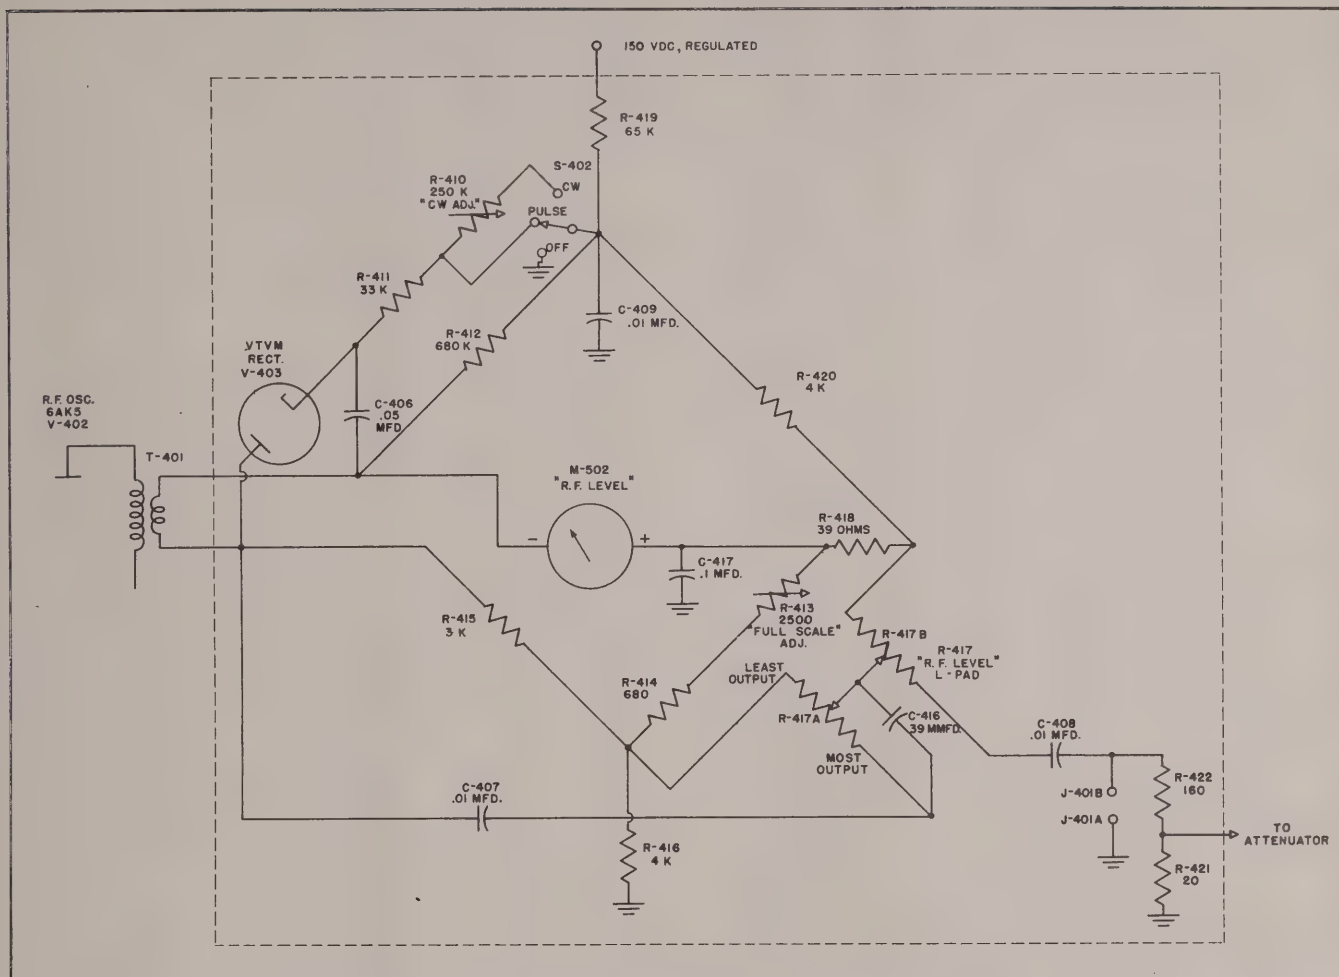
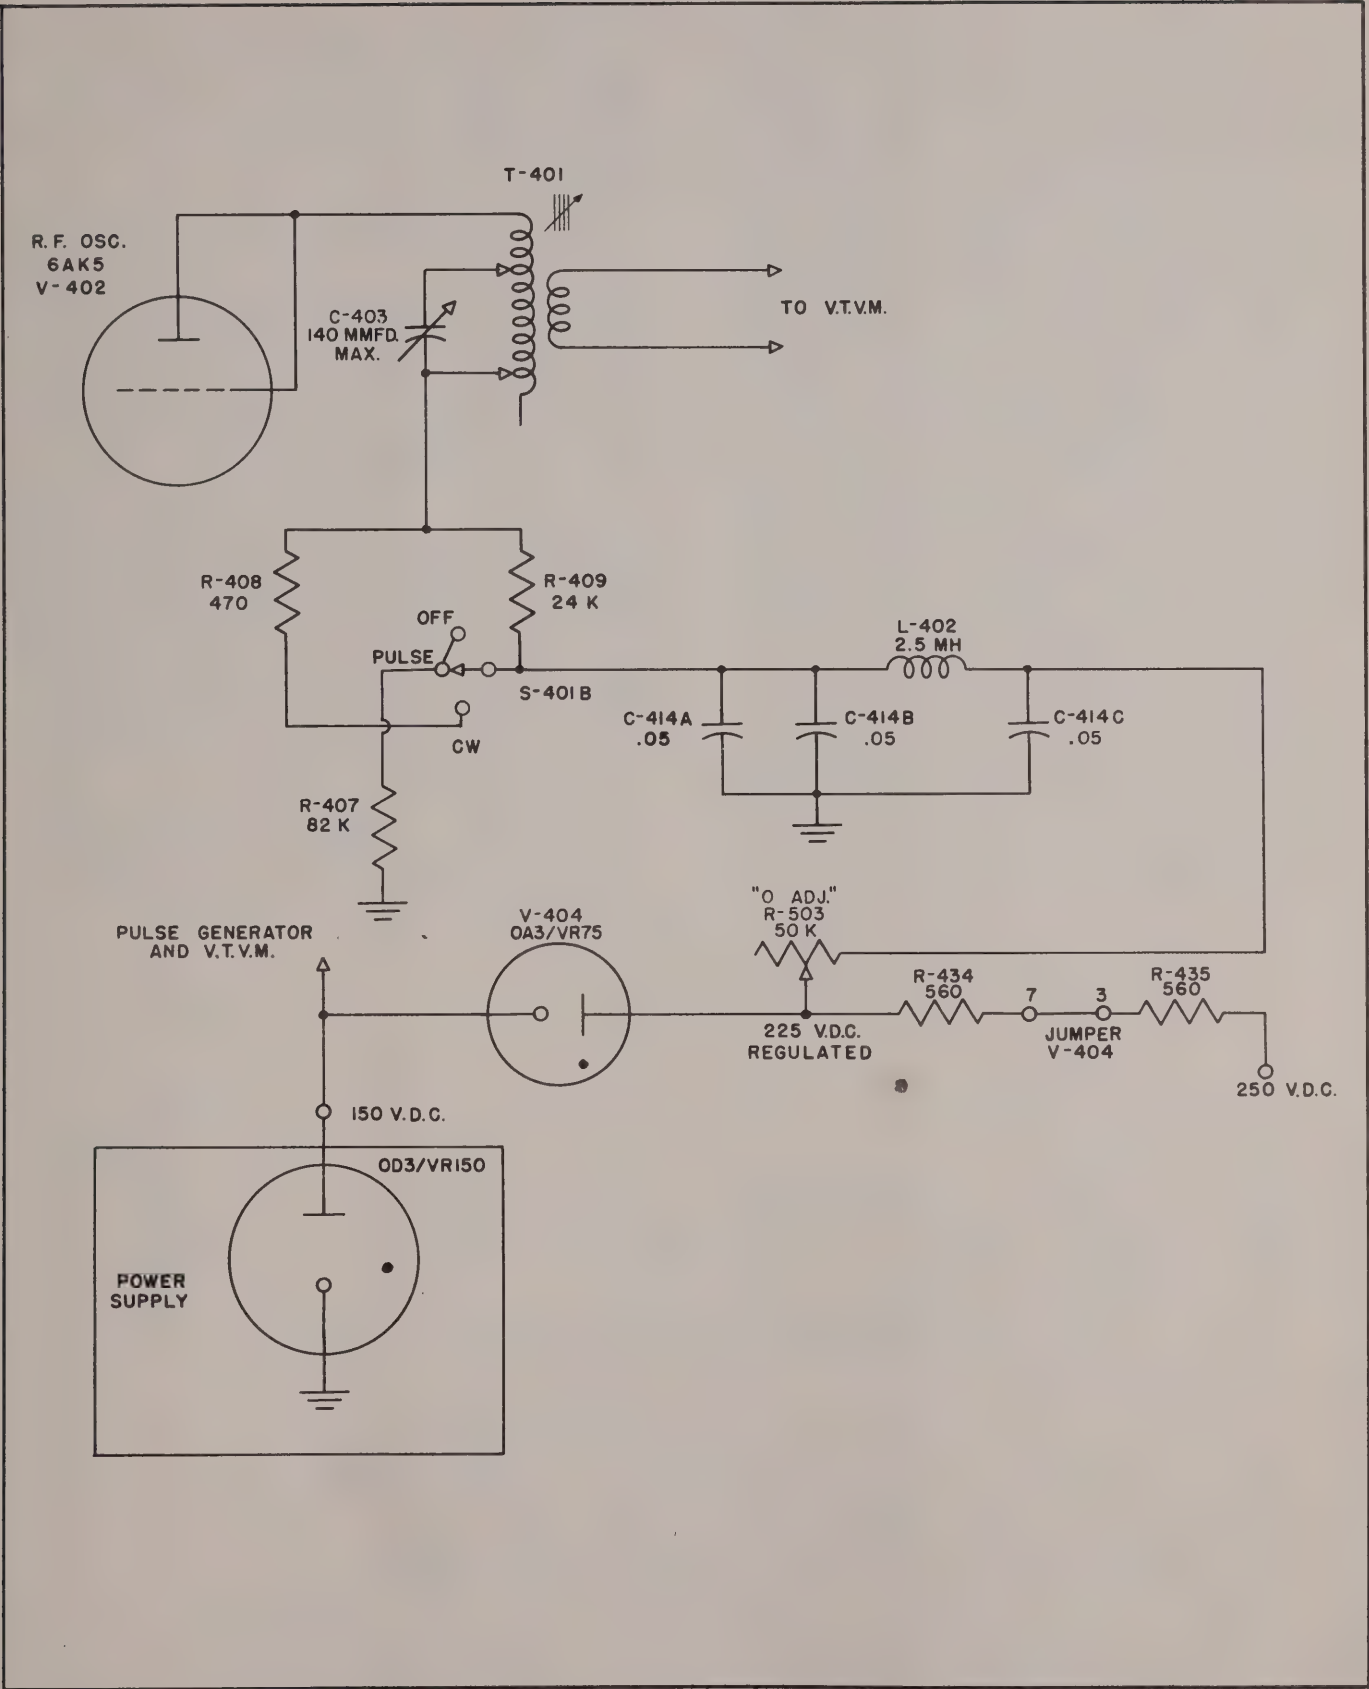

Figure 2-2. Simplified Schematic, Vacuum Tube Voltmeter Circuit
Figure 2-3. Simplified Schematic, Vacuum Tube Voltmeter Zero Adjustment Circuit
(4) R. F. OSCILLATOR, FIELD INTENSITY METER IM-14/UP.—This generator is the same as described in Sec. 2-2c(3) except that capacitor C-405 and transformer T-401 are adjusted to resonate in the frequency range of 110 kc. to 220 kc. per second and capacitor C-404, resistors R-436 and R-406 are changed in value because of the lower operating frequency.
(5) VACUUM TUBE VOLTMETER. (See figure 2-2.)—With no RF voltage applied to the secondary of T-401 and the "L" pad R-417A and R-417B set to minimum, the *RF Level* meter M-502 reads less than zero because of the d. c. voltage drop across resistor R-420. Low tolerance wire wound resistors R-419, R-420, and R-416 are used to maintain this delay voltage at 8.2 VDC in Field Intensity Meter IM-10/UP or 8.8 VDC in Field Intensity Meter IM-14/UP. It is necessary to apply a peak RF voltage equal to the delay voltage to the bridge circuit from T-401 before the meter will read zero. Zero setting of the meter is accomplished by varying resistor R-503, *Zero Adj.* control, which in turn changes the plate voltage on the RF oscillator V-402 (See figure 2-3). As the "L" pad is advanced, the bridge becomes more unbalanced and the meter reading becomes greater. Thus the meter may be calibrated in terms of RF Level from the minimum to the maximum positions of the "L" pad. The decimal factor, *Multiply By*, determined by the setting of the decade attenuator, must be applied to the *RF Level* meter reading to determine the signal level at the output of the attenuator.
High voltage from J-501, power receptacle on the front panel, is connected to the 250 V. terminal on board E-402. A regulated voltage of 225 V. at the *O Adj.* terminal on E-402 is provided from this voltage by regulator tubes V-404 on the Signal Generator Unit and V-603 in the Power Supply Unit in series with current limiting resistors R-434 and R-435 and internal connection between pins 3 and 7 on V-404. (See figure 2-3.) The voltage applied to the 150 V. terminal on E-401, supplying plate voltage for the pulse generator V-401 and the vacuum tube voltmeter circuit, is regulated by V-603 in the Power Supply Unit.